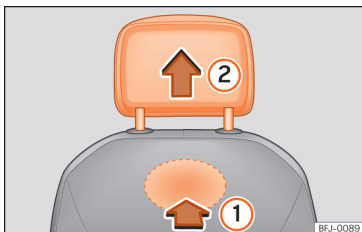

Fig. 96 Front head restraint: removal.
- To unlock it, look for the rabbet on the bottom of the backrest and press in the direction of the arrow >>> Fig. 96 ①.
- Remove the head restraint in the direction of the arrow ②.